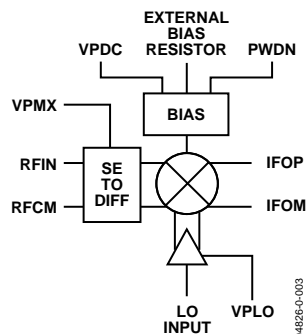

Figure 35. AD8344 Simplified Schematic
The AD8344 is a down converting mixer optimized for operation within the input frequency range of 400 MHz to 1.2 GHz. It has a single-ended, 50 Ω RF input, as well as a single-ended, 50 Ω local oscillator (LO) input. The IF outputs are differential open collectors. The mixer current can be adjusted by the value of an external resistor to optimize performance for gain compression and intermodulation or for low power operation. Figure 35 shows the basic blocks of the mixer, which includes the LO buffer, RF voltage-to-current converter, bias cell, and mixing core.